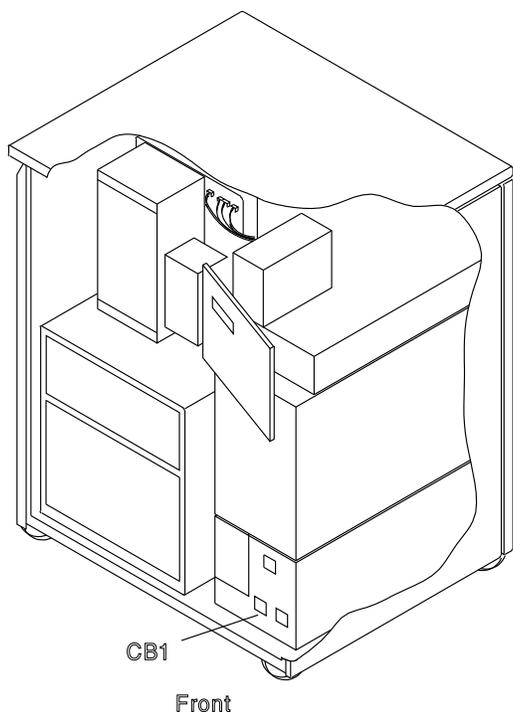

Figure 4-85. CB1 Location
4. **Switch CB1 OFF.** Refer to Figure 4-85.